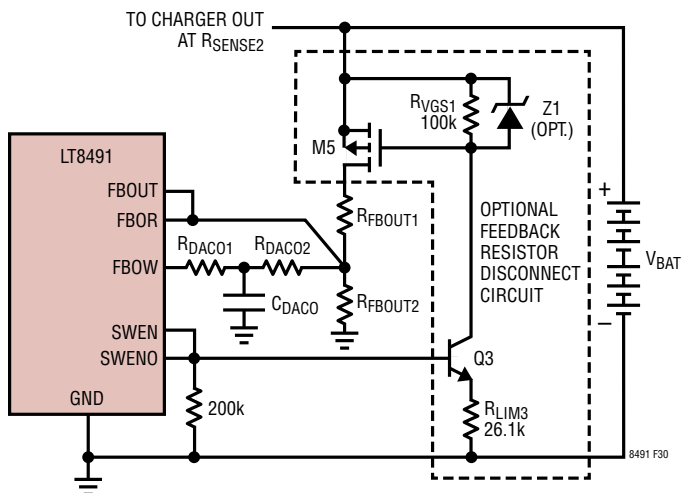
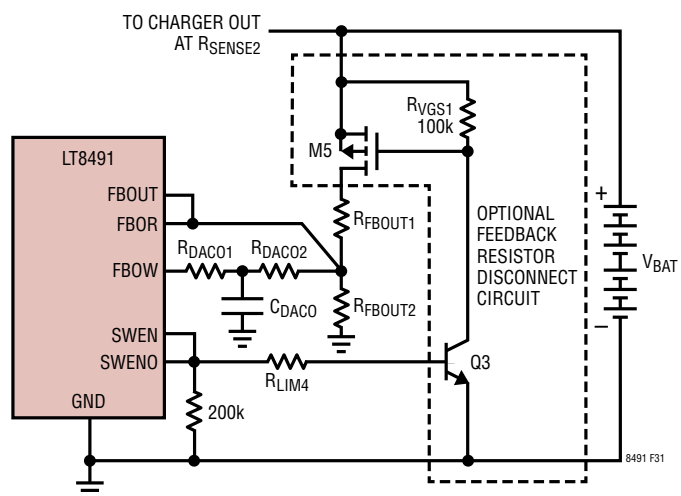
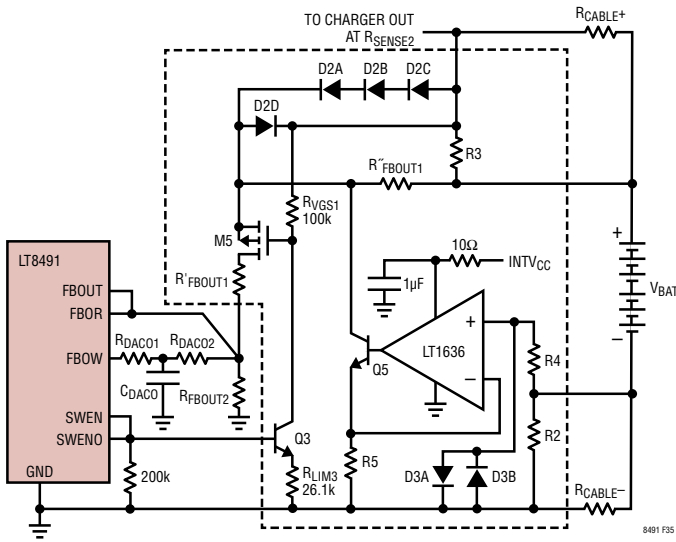

Figure 30. Optional Feedback Resistor Disconnect Circuit #1
Figure 31. Optional Feedback Resistor Disconnect Circuit #2
Figure 35. How to Combine Figure 30 and Figure 34
If desired, the resistors can be automatically disconnected from the battery when charging stops by using one of the circuits shown in Figure 30 and Figure 31. The circuits are controlled by the SWENO signal from the LT8491 and connect the resistor feedback network when charging is taking place. When charging stops, the network is disconnected and current draw from the battery becomes negligible.
**Selecting Z1:** Due to the transients that may occur during hot-plugging of a battery, this Zener diode is recommended to protect device M5 from excessive gate to source voltage. If using device Z1, the reverse breakdown voltage should be selected such that  $V_{GS(ON)} < V_{Z1(BREAKDOWN)} < V_{GSMAX}$  where  $V_{GSMAX}$  is the maximum rated gate to source voltage specified by the device manufacturer. The BZT52C13 has a reverse breakdown voltage of 13V making it suitable for the  $R_{LIM3}$  value shown in Figure 30.
**Alternate Circuit:** For lower battery voltages ( $< 20V$ ), Q3 in Figure 30 may saturate. To avoid this, consider connecting the emitter of Q3 directly to ground by removing  $R_{LIM3}$  and adding resistor  $R_{LIM4}$  to the base of Q3 as shown in Figure 31. Employing the optional feedback resistor disconnect at arbitrarily low battery voltages will be limited by the required gate to source voltage of M5.
D2A - D2C protect the charger if the positive charging cable ( $R_{CABLE^+}$ ) becomes disconnected while the others remain intact. Without the diodes, the output of the charger may overvoltage and become damaged. BAV99 diodes are a good choice and are available in a dual-diode package to minimize board space. Note that the diodes limit the maximum  $R_{CABLE^+}$  error to 0.3 to 0.5V. If a greater voltage drop is typical in the positive cable, then place more diodes in series. In Figure 35, D2D protects the M5 device by limiting the gate to source voltage when making the remote sense connection.
Figure 35 shows how to combine the remote sensing circuit (Figure 34) and the feedback resistor disconnect (Figure 30) for applications that require the most accurate battery voltage sensing and negligible battery drain when charging completes. The  $R_{VGS1}$  resistor can no longer connect to the source of M5 (as in Figure 30) since the  $R_{VGS1}$  current would also flow through  $R''_{FBOUT1}$  causing an error in the measured battery voltage. Figure 34 shows that  $R_{VGS1}$  has been reconnected to the (+) battery sensing terminal.